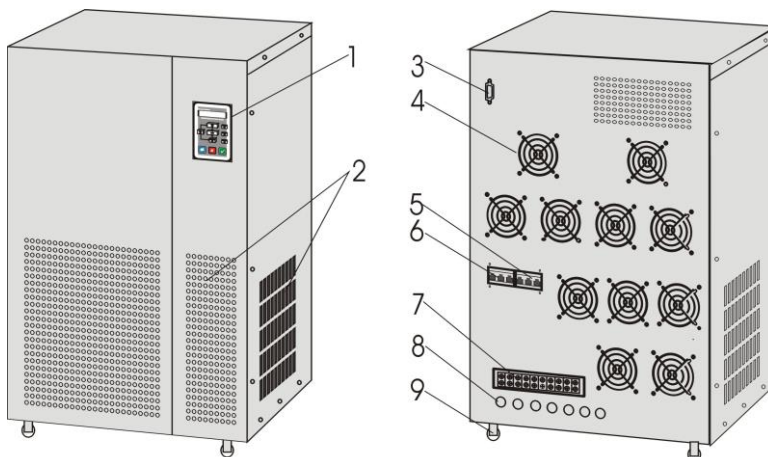

Figure 2
3.2. Machine appearance (Figure 2)
To make UPS normal and correct running, please confirm the following items. (Refer to figure 2)